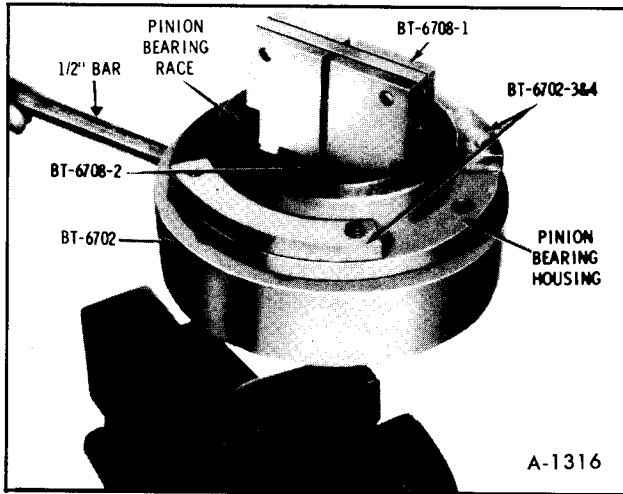

Figure 28—Removing Pinion Rear Bearing Outer Race
16. If necessary to remove the pinion rear outer race, it can be removed as shown in Figure 28.